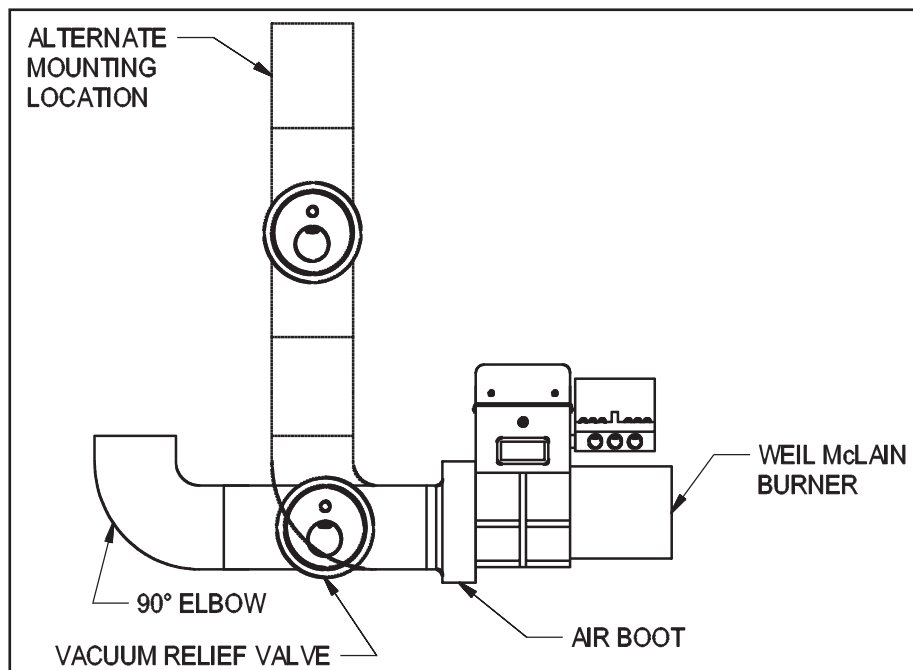

Figure 5
9. Mount the VRV tee assembly or 90° elbow onto the Air Boot™ intake. Fasten using three (3) sheet metal screws on all joints. (See Figure 5)